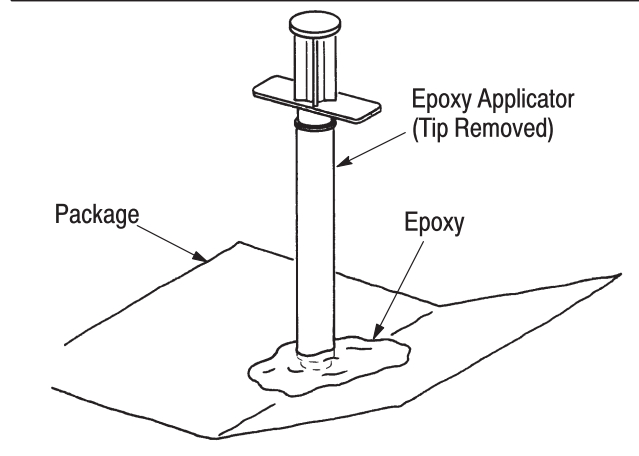

Figure 3
2. Install the open end of the epoxy applicator into the epoxy, and pull back on the plunger to draw epoxy into the applicator. See Figure 3.